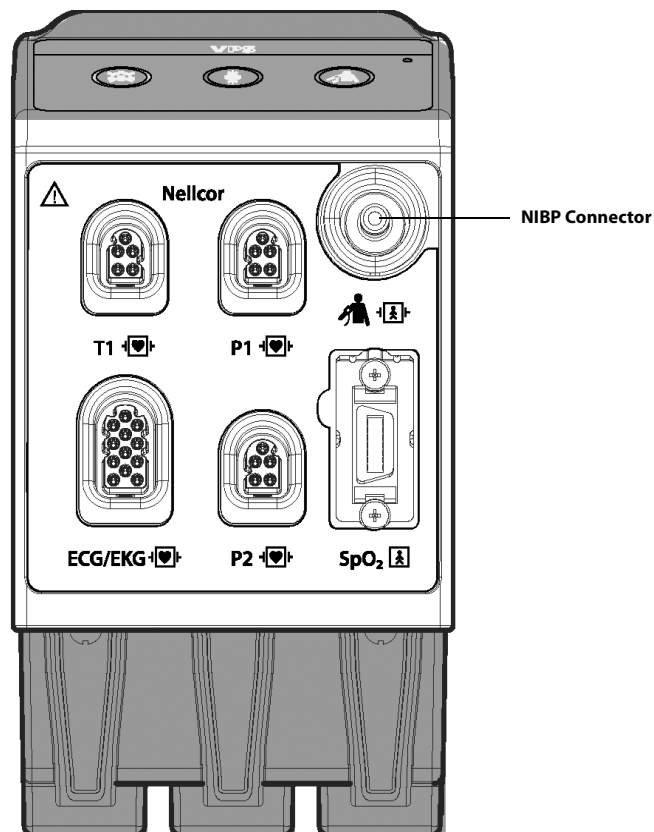

FIGURE 14-1 Example Nellcor VPS NIBP Connector
The VPS module supports one (1) NIBP connector (as shown in FIGURE 14-1). Refer to "Measuring NIBP" on page 14-5 for additional information.
2. Attach the cuff hose to the NIBP connector on the VPS (as shown in FIGURE 14-1)